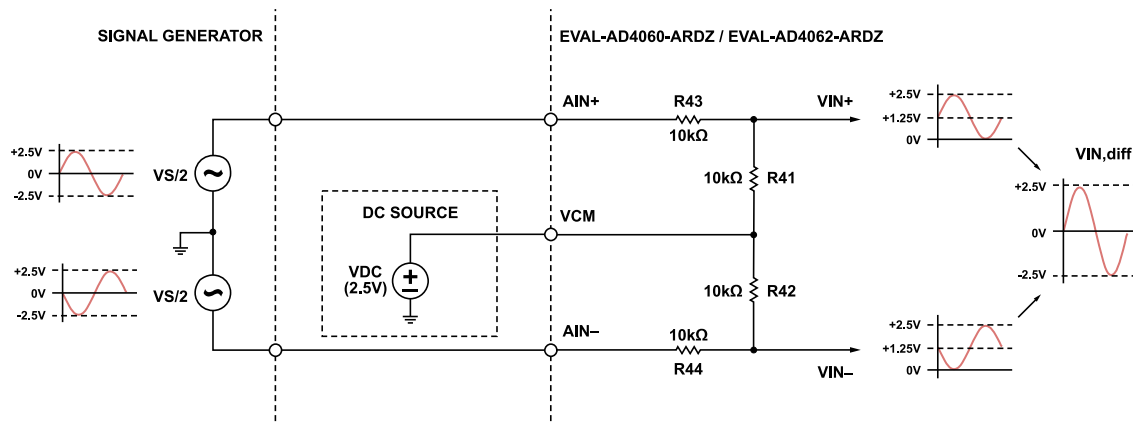

Figure 13. Bipolar Differential Signal Generator Example
- For signal generators with bipolar, differential output swings (signals that go below GND), the VCM input provides a means to apply the necessary DC offset to satisfy the input range specification of the MAX44260 amplifiers. Figure 13 gives an example with a 2.5V VREF and amplifiers in unity-gain configuration. The signal source (VS) is 5V peak or 10V p-p and VCM is 2.5V DC.